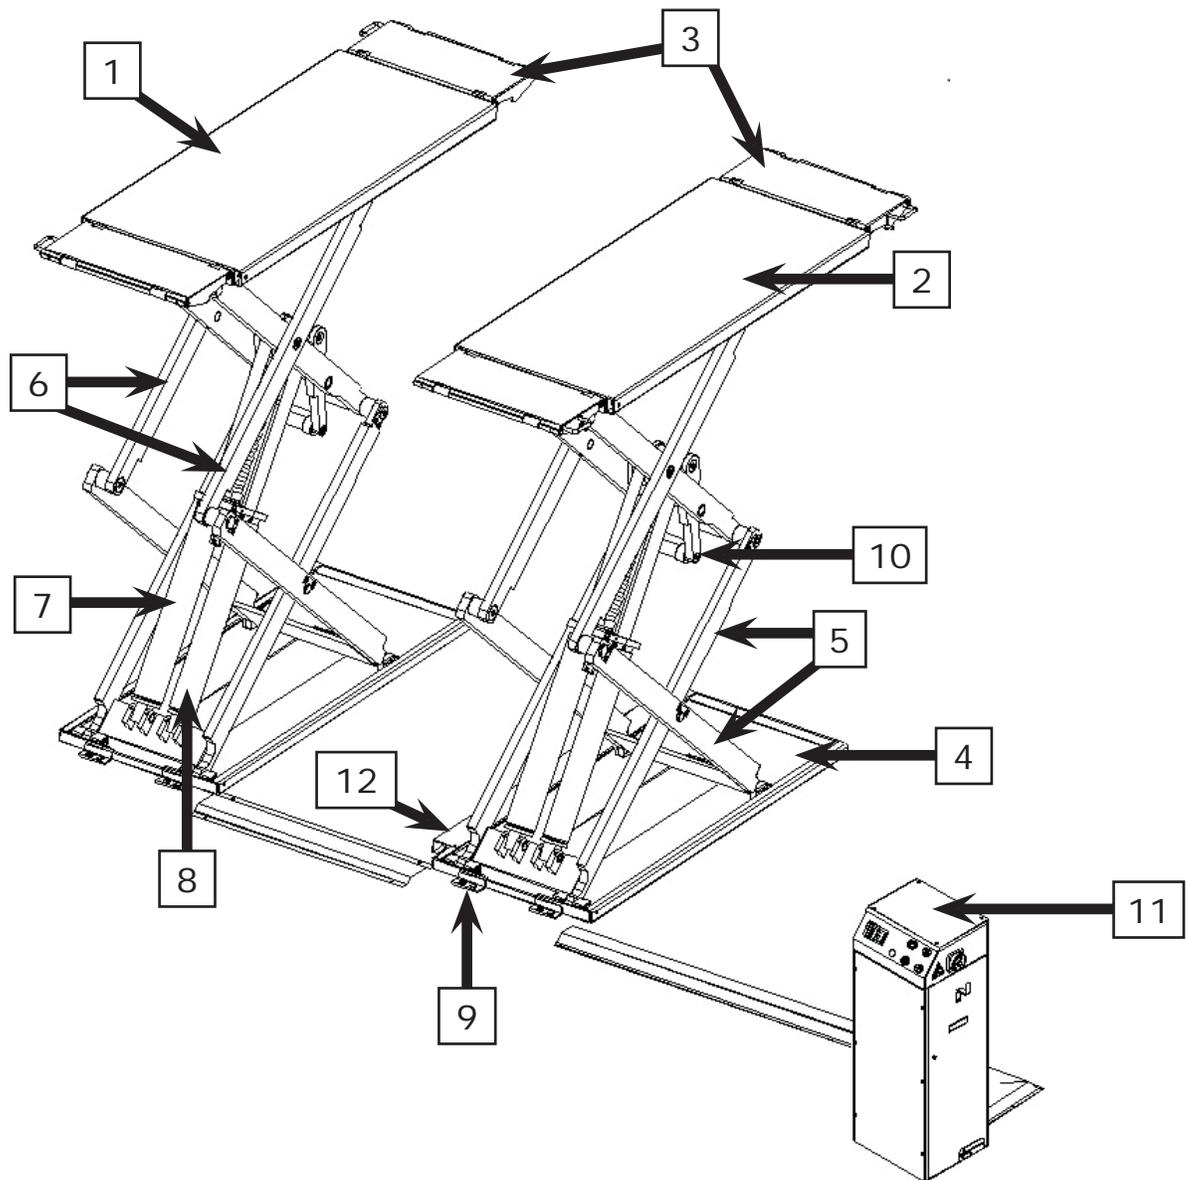

Figure 1 – Lift
## 4.1 Lift (Ref. Figure 1)
As shown in Figure 1, the lift is composed of two platforms: P1 (1) and P2 (2) each equipped with the drive-on/off ramps (3) which can be locked to the platforms as extensions, anchored to the ground by means of bases (4).